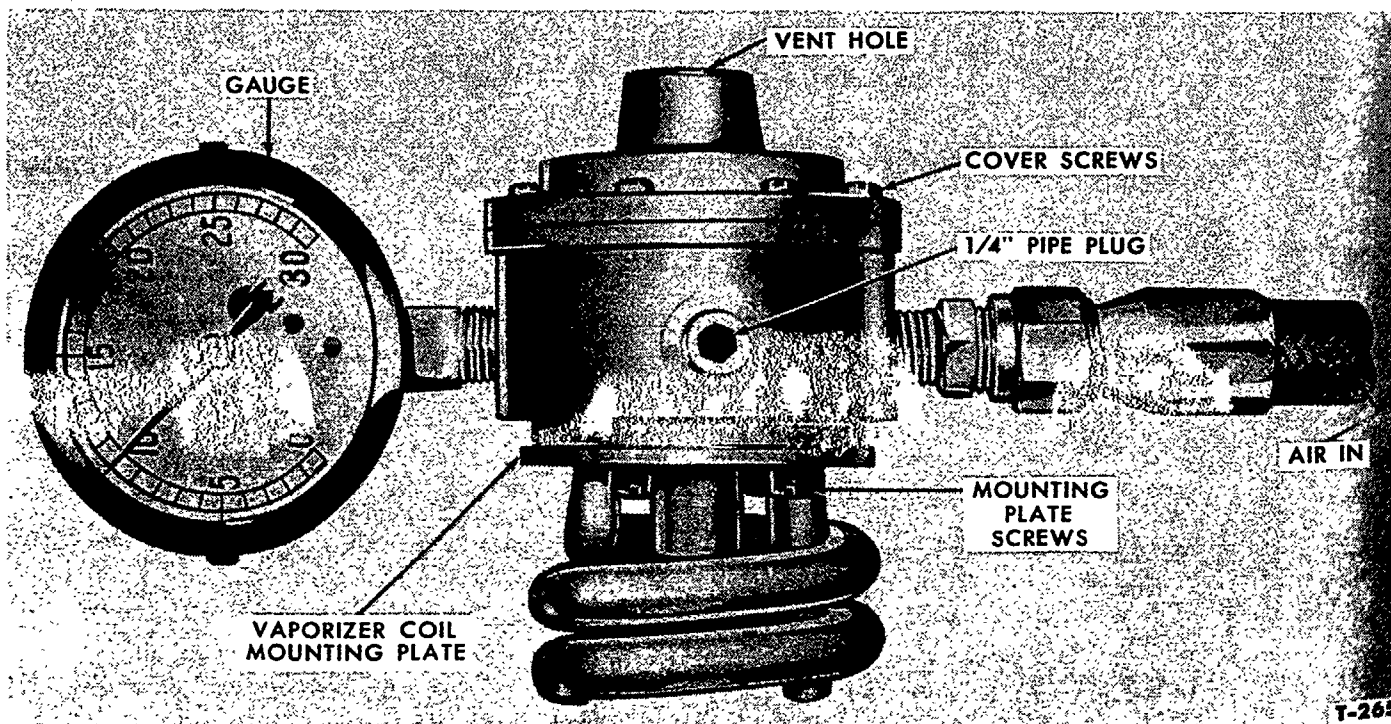

Figure 24—Checking Vaporizer for Leaks
11. Connect a 0 to 30 psi gauge to one of the three vaporizer outlets. Close the remaining outlets with $\frac{1}{4}$ " pipe plugs, Figure 24.